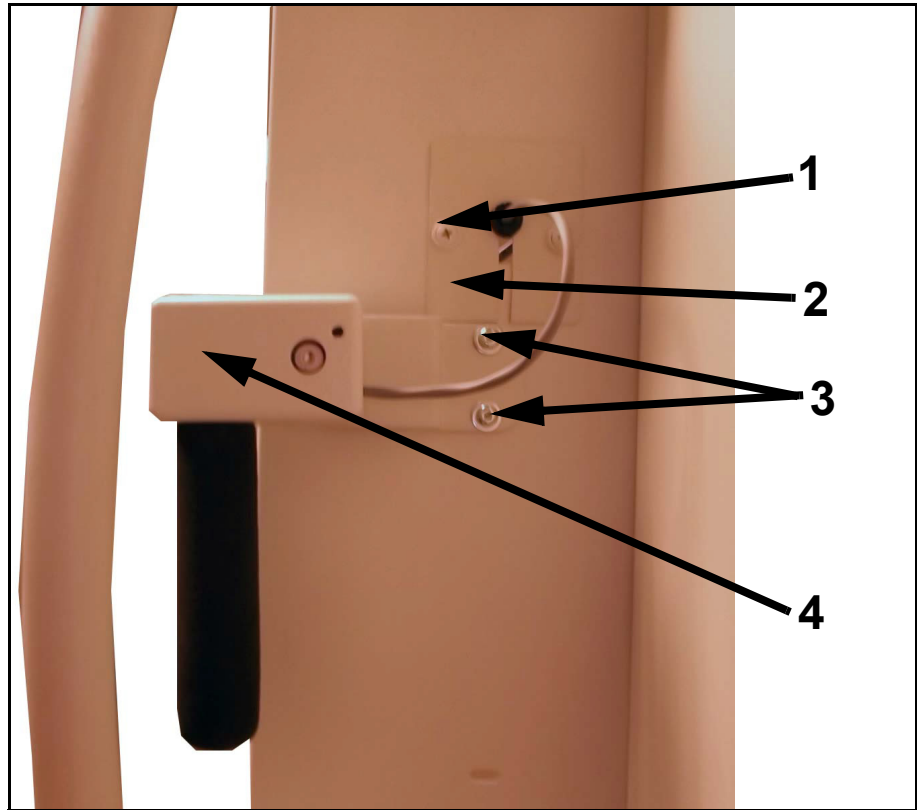

Figure 5-18. Brake Handle Removal
- 21** Unscrew the brake plate screw (1 in Figure 5-18) and remove the brake plate (2)
- 22** Unscrew the brake handle mounting screws (3) and remove the brake handle (4).